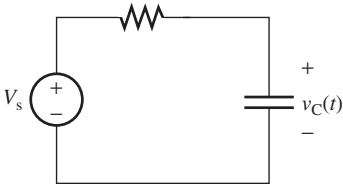

FIGURE P5.3 Circuit for Problem 5.3.
- 5.3 (B)* Find an expression for $v_C(t)$ in Figure P5.3 given that $v_C(0) = 0$. (The switch closes at $t = 0$.)